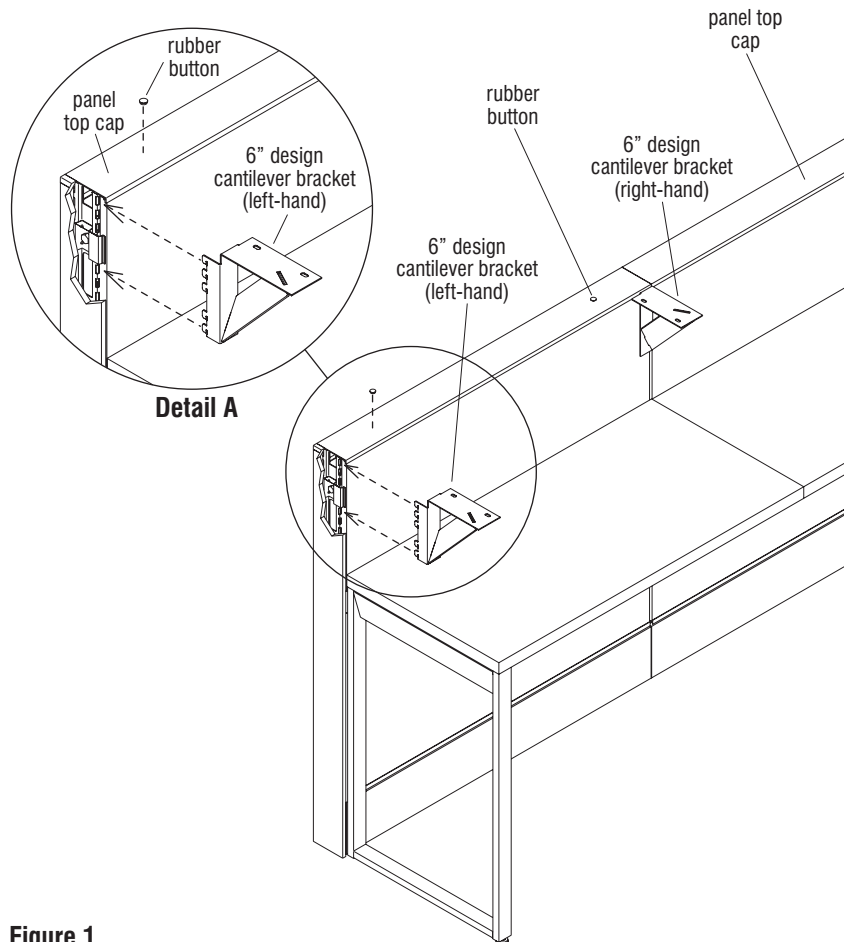

Figure 1
1. Ensure that the Unite Panel top cap is installed prior to attaching brackets and transaction countertop. Install two self-stick rubber buttons to the top cap as illustrated. Spacing of buttons is approximate, and buttons prevent the countertop from incidental contact with the top cap (Figure 1).
2. The 6" design cantilever brackets are right- or left-hand in design, so one style of bracket will install to the left-hand side, and the other style will install on the right-hand side of the panel to support a transaction countertop. They must be installed to the inside (workstation side) of the panel. To install a bracket, identify the top slot of the panel vertical post and insert the top tooth of the appropriate cantilever design bracket into that top slot. Engage all teeth into slots in the vertical post, then press down firmly to engage all teeth into the slots. The horizontal top of the bracket should be about $\frac{1}{8}$ " above the top of the panel top cap. Check bracket for full engagement by pulling straight back firmly in a horizontal motion (Figure 1 & Detail A).